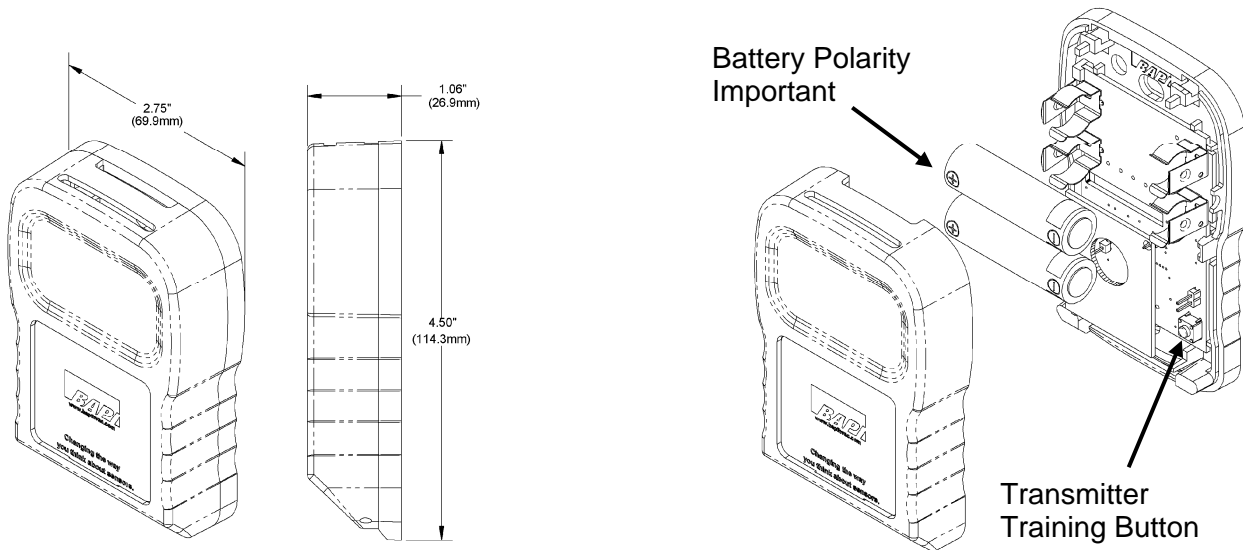

Figure 1: Wireless Temperature Transmitter
5. Remove the cover of the transmitter and install the batteries, observe polarity. The small LED at the bottom right, next to the Transmitter Training Button in Figure 1, should flash approximately once every 10 seconds. (The flash is very quick.)